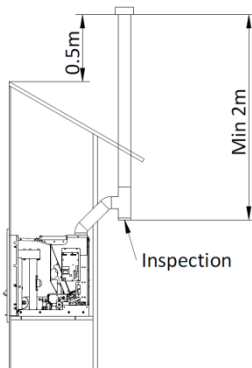

Figure 1 - Side view of the installation without chimney, example of the inspection point
- The installation of this unit without a chimney must be made by bringing the fume exhaust pipe (with minimum internal diameter of 80 mm) directly out and over the top of the roof at approximately 0,5 m higher (Figure 1).